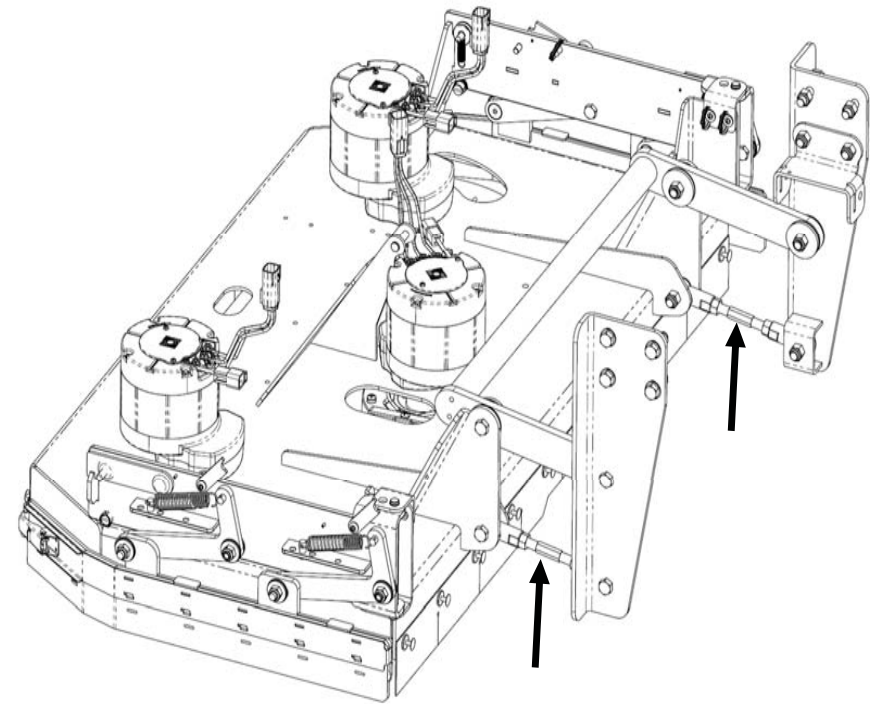

Fig. 1: Leveling Rods
3. From under the machine, adjust the leveling rods as necessary (See Fig. 1).